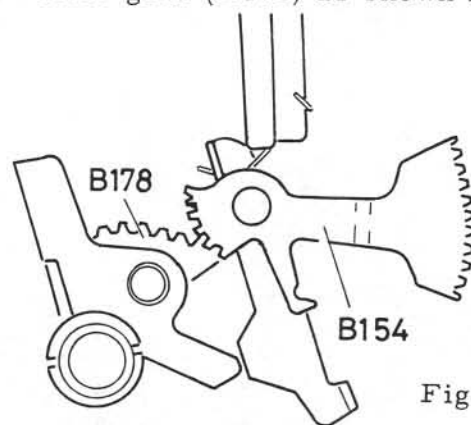

Fig. 6
* Engage B154 with the Cam charge sector gear (B178) as shown in Fig. 6.